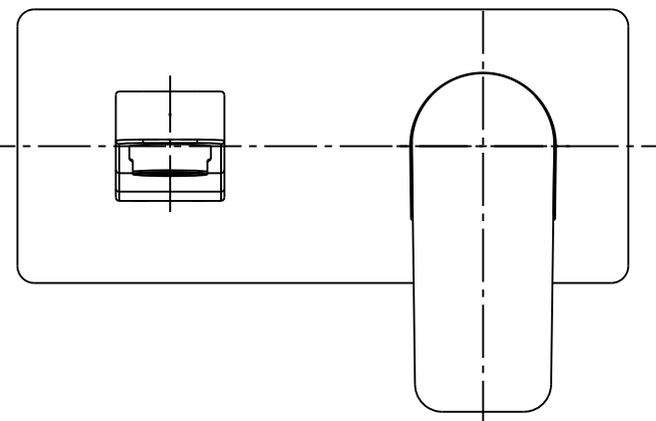
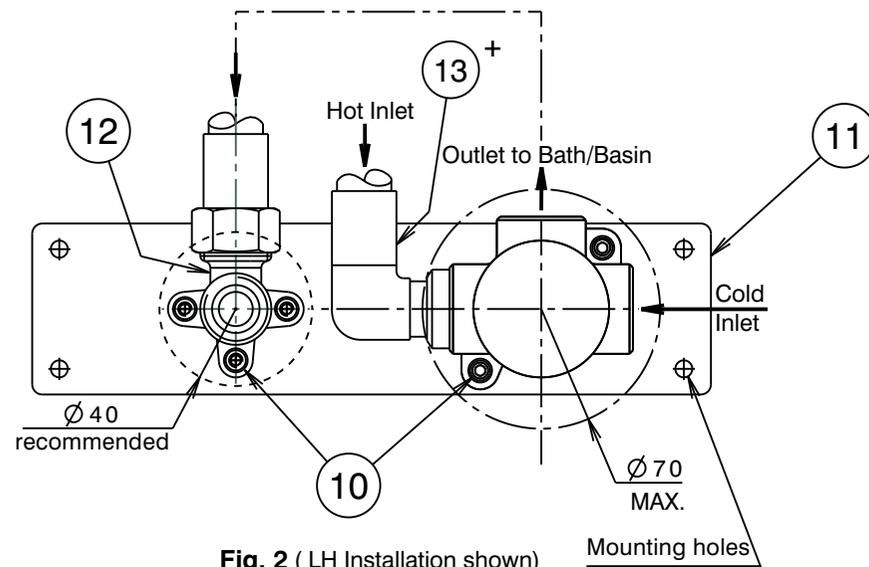

Fig. 3 (LH Installation Shown)
Fig. 2 (LH Installation shown)
- Determine if outlet (17) is to be positioned to the right or the left of the mixer body (8) when installed (Fig. 3.). Fit suitable fittings to the connection ports of the mixer (8) (Fig. 2.). When facing the mixer, the connections should be as follows :
**Note:** A suitable elbow fitting (13+) should be fitted to the inlet connection adjacent to the lugged elbow (12) (Fig.2). Attach the mixer body (8) & the lugged elbow (12) to the mounting plate (11) with screws (10) and tighten using a suitable screw driver. Note: Mounting plate can be rotated 180° to change hand.
- Fit the mounting plate (11) onto a suitable noggin in the wall & secure using screws through the holes in each corner.
- \* The mounting plate (11) must be installed horizontal & parallel to the face of the wall studs to ensure correct installation.
- Complete the connections. (Fig. 2). Check all connections for leaks and the mixer for correct operation.